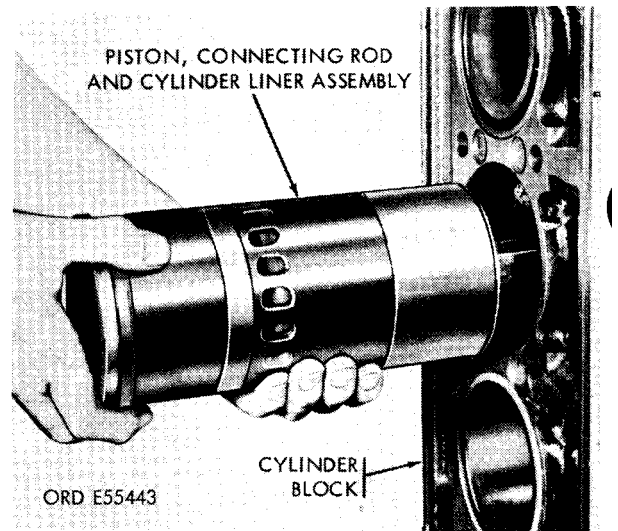

Figure 3-146. Installing piston, connecting rod and cylinder liner assembly.
4. Hold the piston, rod, and liner in line with the block bore (fig. 3-146) so the identification number on the rod is facing the engine serial number side. Also, align the matchmarks on the liner and block. Slide the entire assembly into the block bore and seal ring, being careful not to damage the seal ring.